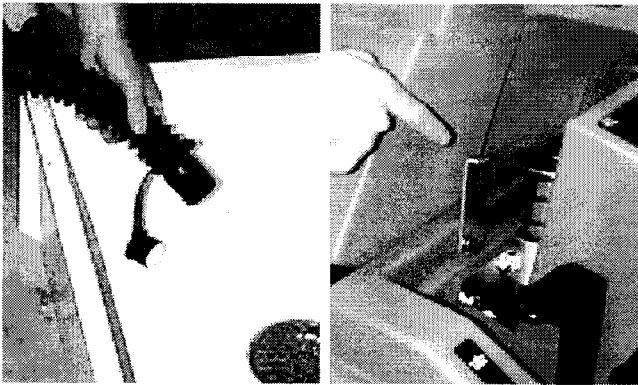

FIG. 20
1. Remove drain hose from holder, position hose over floor drain and twist off drain hose plug. To completely drain recovery tank, hinge open tank sideways and flip up tank support stand to rest tank on (Figure 20).